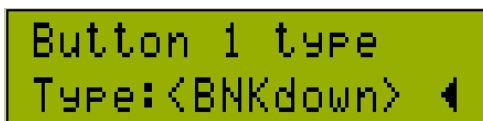

Fig. 19
You can also change banks up and down on-the-fly. To do so, you will need to program any two footswitches out of 12 (5) available. Enter **Buttons Setup** menu and assign **BNKup** and **BNKdown** to the desired footswitches (see Fig. 19).